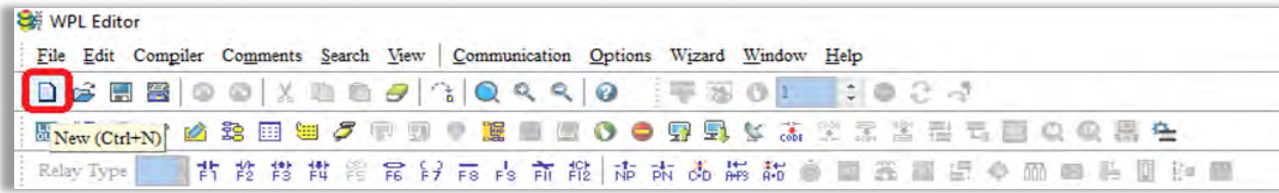

Figure 16-4
Step 3: Click on the  icon on the toolbar: opens new file (Ctrl+N), see Figure 16-4 below.